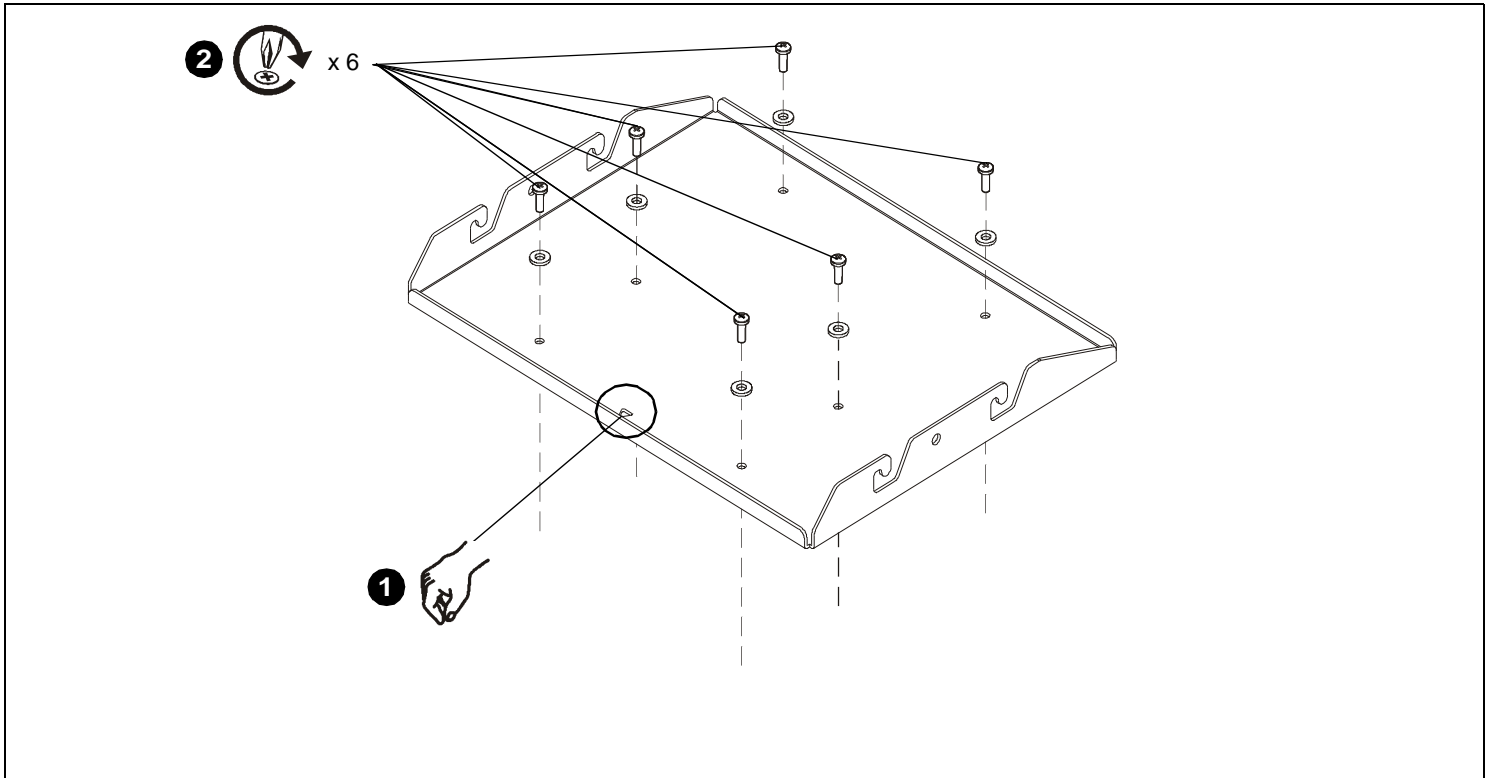

Figure 1
1. Lower custom HB bracket onto top of projector. Ensure that triangle in bracket points toward front of projector. (See Figure 1)
2. Attach HB bracket to projector using six M6 x 16mm Phillips pan head screws and six M6 washers through six holes in the HB bracket. (See Figure 1)